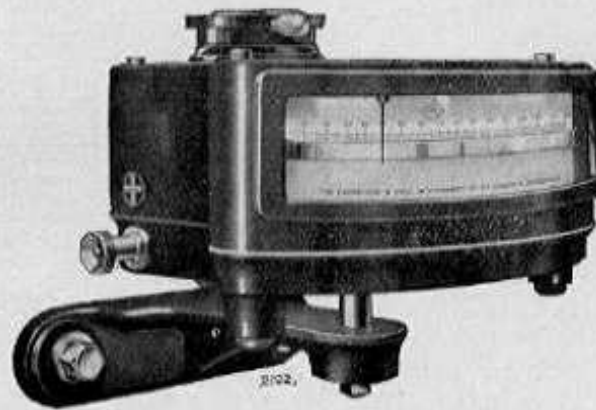
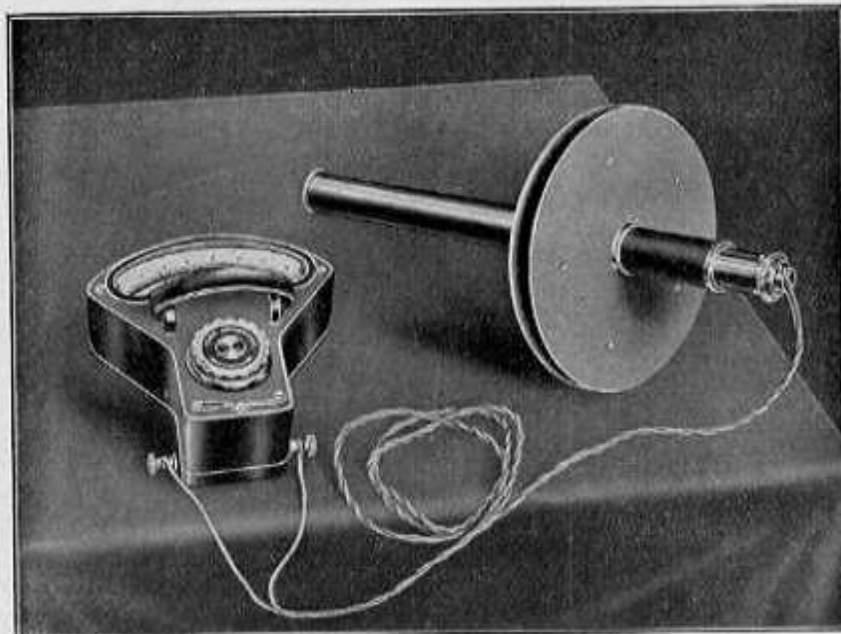

Fig. 3.
Fig. 6.
An accompanying millivoltmeter is provided with a temperature scale reading approx. from 600 to 1450° C. (fig. 3).
**Type C** (fig. 6) is a portable instrument without lenses, consisting of a metal tube with diaphragms and a thermopile at one end. A millivoltmeter indicates the thermo-force
We advise the use of the millivoltmeter illustrated in fig. 6 for transportable outfit. The millivoltmeter fig. 3 or one of the recorders should prove more suitable for permanent installations.
Millivoltmeter as illustrated in fig. 3 . . . . .	. . . . .
Millivoltmeter as shown in fig. 6 . . . . .	. . . . .